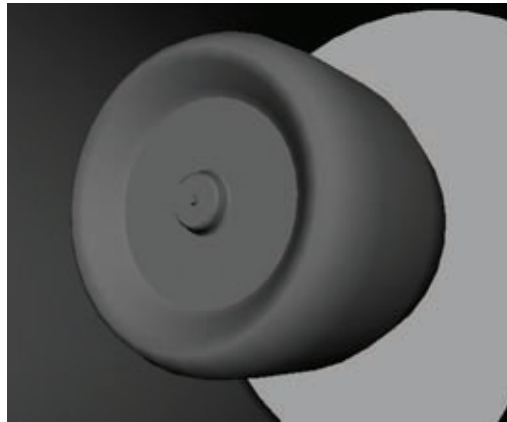

Figure 7.4
6. Once revolved, place it in the center of the fan housing. Select the front face and, using a couple of simple Extrudes and Bevels, bring out a central detail to serve as an axis, such as my example shown in Figure 7.4. You can add more details, such as bolts or screws, to your own preference.